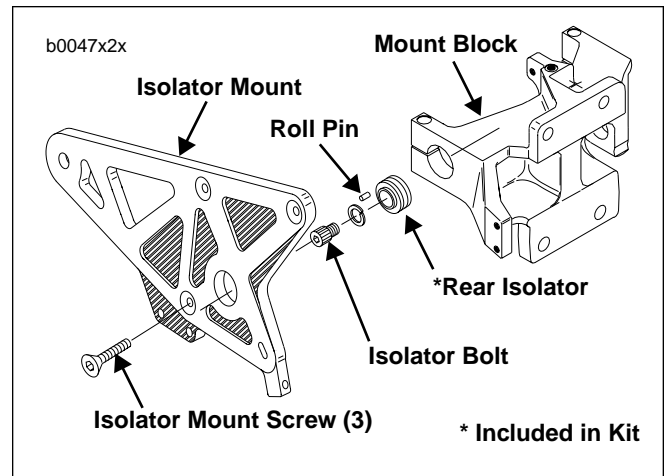

Figure 13. Isolator Mount (Right Side Shown)
- See Figure 13. Remove right and left side isolator bolts and washers from swingarm bearing adjustment bolts.
10. See Figure 13. On left side isolator mount, align locator hole with roll pin and install **new** rear isolator, provided in kit.